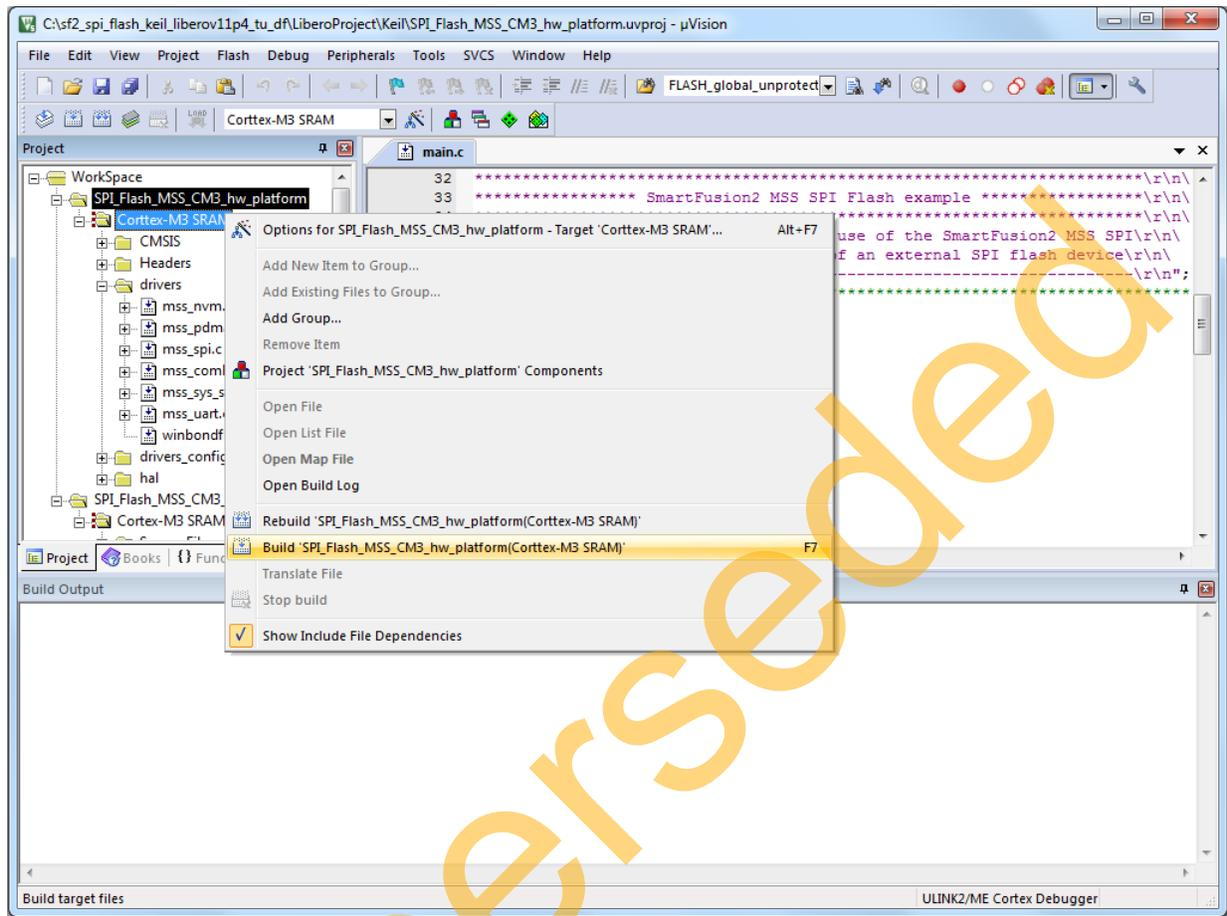

Figure 26 • Build HW Platform Window
8. Right-click **Cortex-M3 SRAM** under **SPI_Flash_MSS_Cm3_hw_platform** and select **Build SPI_Flash_MSS_Cm3_hw_platform (Cortex-M3 SRAM)** as shown in Figure 26.